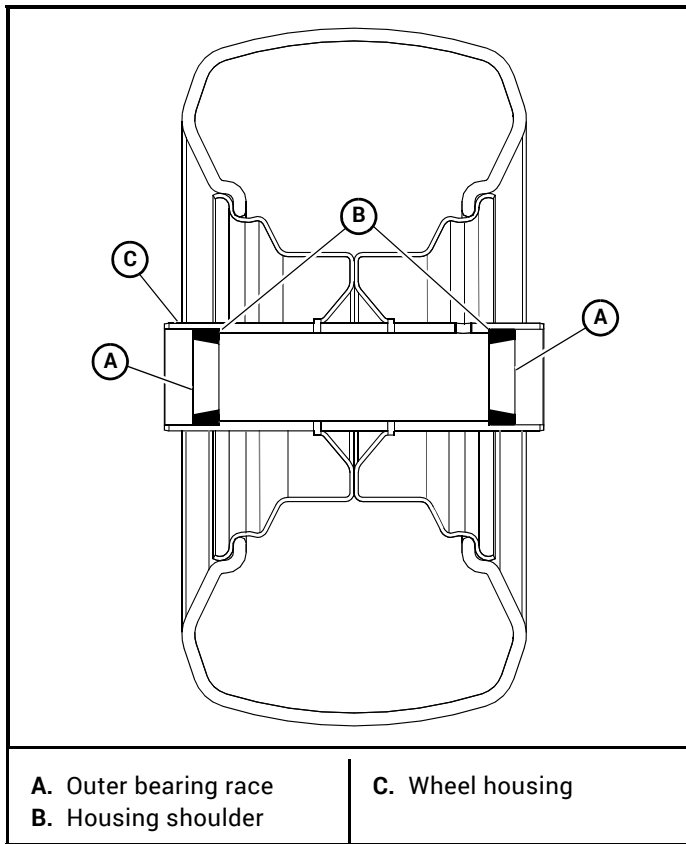

Figure 4-32
1. Press the new outer bearing races into the wheel housing until they are fully seated against the housing shoulder. Figure 4-32